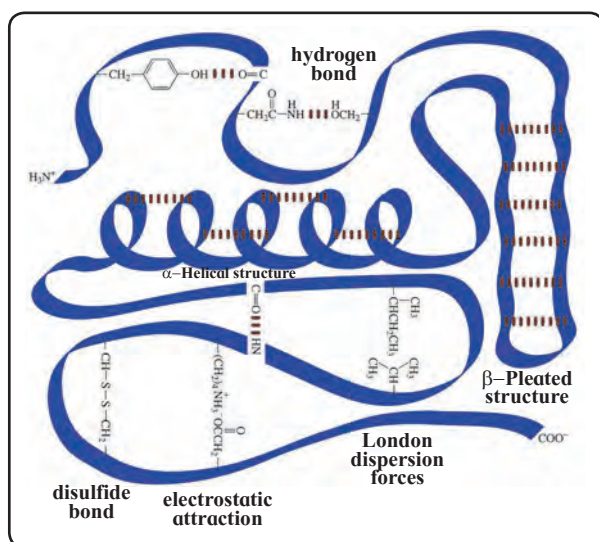

Fig. 14.21 : Tertiary structure of protein
c. Tertiary structure of proteins : The **three-dimensional shape adopted by the entire polypeptide chain of a protein** is called its tertiary structure. It is the result of folding of the chain in a particular manner that the structure is itself stabilized and also has attractive interaction with the aqueous environment of the cell. The **globular** and **fibrous** proteins represent two major molecular shapes resulting from the tertiary structure. The forces that stabilize a particular tertiary structure include **hydrogen bonding**, **dipole-dipole attraction** (due to polar bonds in the side chains), **electrostatic attraction** (due to the ionic groups like -COO^- , NH_3^+ in the side chain) and also **London dispersion forces**. Finally, **disulfide bonds** formed by oxidation of nearby -SH groups (in cysteine residues) are the **covalent bonds** which stabilize the tertiary structure (Fig. 14.21).